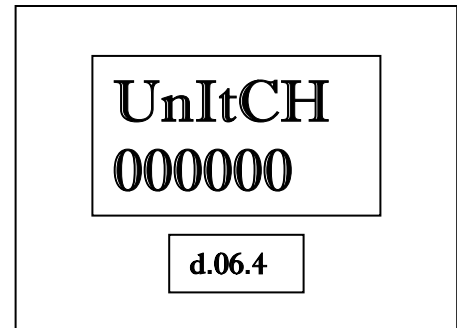

Figure 45
6.4 - Unit Ch. The display in Figure 45 appears. The PPV display shows the dispenser is in Diagnostics Level 6.4.